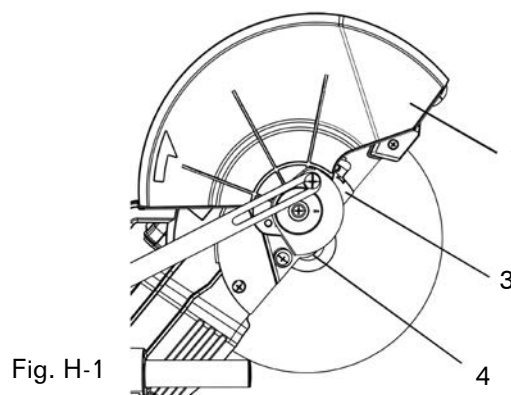

Fig. H-1
3. Remove the cover plate screw (2) with a Phillips screwdriver (Fig. H)
4. Raise the lower blade guard (1) to the uppermost position. (Fig. H-1)
5. Rotate the cover plate (3) back to expose the arbor bolt (4). (Fig. H-1)
6. Place the provided blade wrench over the arbor bolt (4).
9. Remove the arbor bolt (4), the outer blade collar (6), and the blade (7). Do not remove the inner blade collar. (Fig. J)
10. Raise the lower blade guard (1) to the upright position to remove the blade. (Fig. H-1)
3. Place the blade wrench on the arbor bolt (4).
4. Press the arbor lock button (5), holding it in firmly while turning the blade wrench anti-clockwise. Continue to press it in while tightening the arbor bolt securely. (Fig. I)
5. Rotate the cover plate (3) and lower blade guard (1) back to its original position. (Fig. H-1)
6. Lower the blade guard and replace the cover plate screw (2) and tighten with a Phillips screwdriver. (Fig. H)
8. Be sure the arbor lock button (5) is released so the blade turns freely.